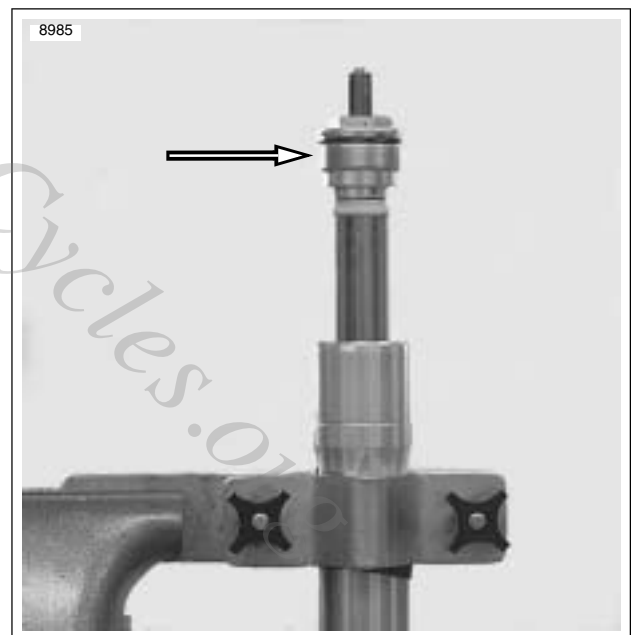

**Figure 2-65. Removing Preload Adjuster**
4. See Figure 2-65. Remove preload adjuster by turning counterclockwise.